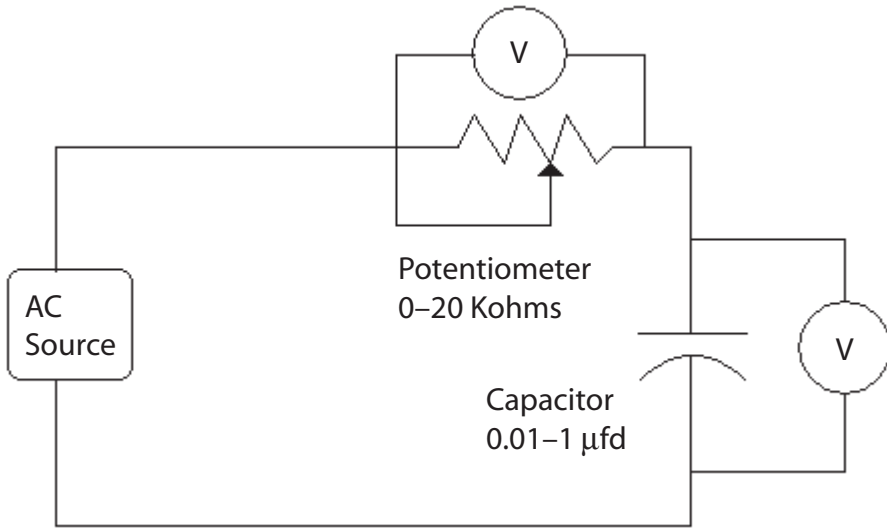

Figure 12-15 Determining X_C .
1. Obtain a function generator as an AC source and a 20-kilohm potentiometer, and connect them in the circuit as shown in Figure 12-15.